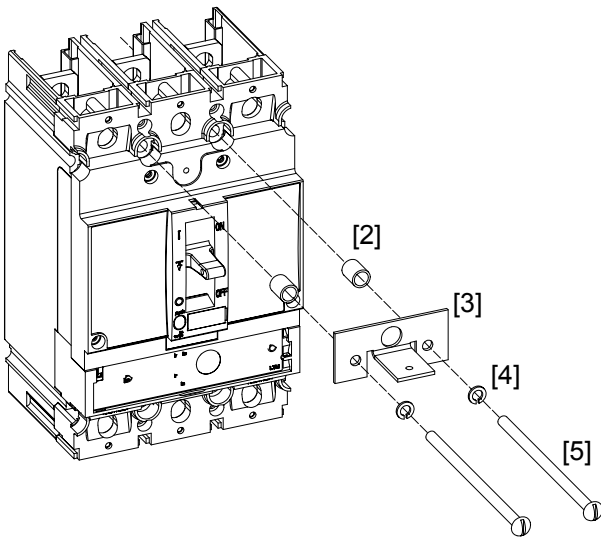

Figure 4. Mounting the circuit breaker along with, L bracket to the enclosure.
2. Mount the breaker to the enclosure with two 7/16" spacer [2], one L-bracket [3], two lock washers [4] and two #10-32 x 3-3/4" screws [5], as shown in Figure 4. Tighten the screws to 27 - 32 in-lb.